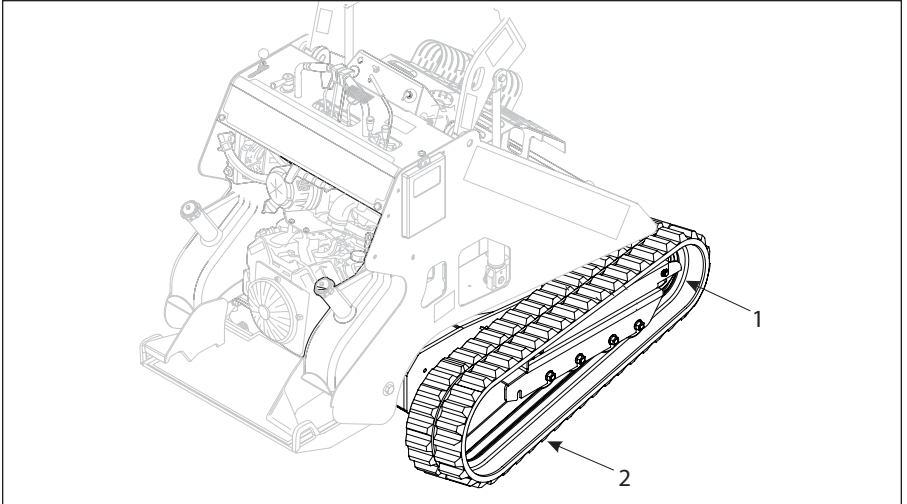

Figure 4-30 Install track onto front idler wheel
12. Slide the track (Item 2, **Figure 4-30**) on the front idler wheel (Item 1, **Figure 4-30**) making sure that the track lugs are on each side of the idler wheel.